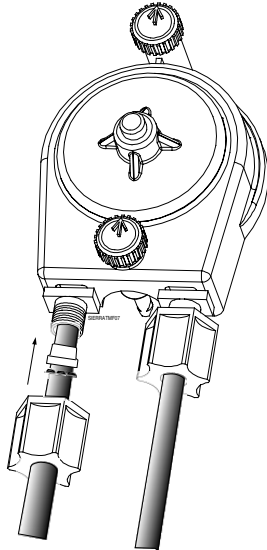

Figure 4. Installing Chemical Tubing
- e) Tighten to a secure fit. See Figure 4
It is very important that the nut components be installed correctly, as shown in Figure 4.